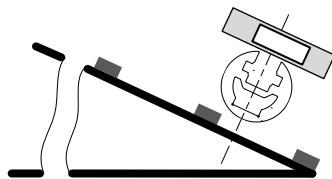

Figure 08
7. Set the groove of the holder tube section at right angles to the roof pitch (Figure 08).
i The holder tube section must be aligned at right angles to the roof surface, as otherwise, it will be very difficult or even impossible to move the collector (Figure 08).